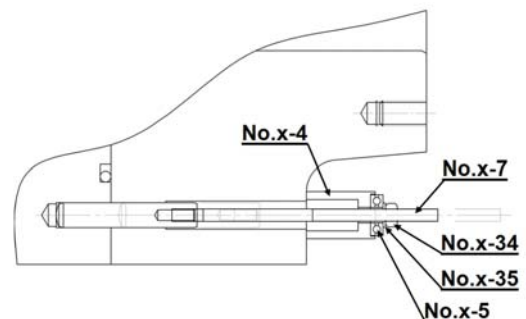

Figure 5-16 Special Tools for Parallel Pin of GH250S/L
- Install special removing tools on the parallel pins [3] with referring to Fig 5-16.
If it is impossible to pull out the bearing head only with hexagon head screws as jack bolts, remove it using the special tools (refer to Table 5-9) as shown in Figure 5-16.